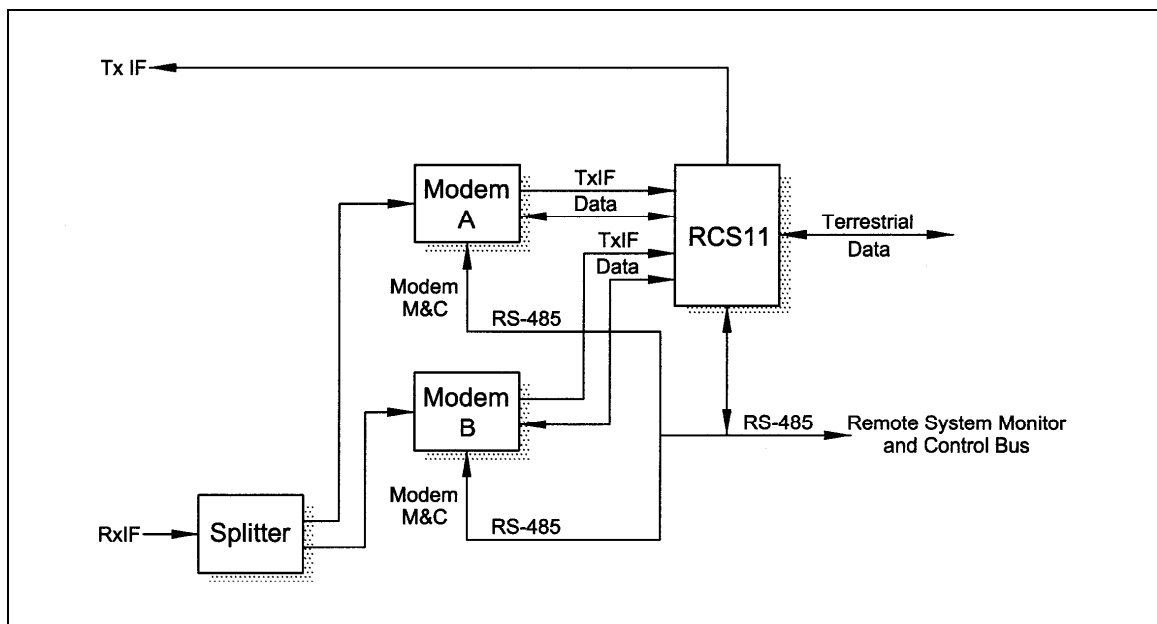

Figure 2-1. Functional Block Diagram
A block diagram of the signal flow is shown in Figure 2-1 below.
2.2.2 Configuring the RCS11 (Refer to Figure 2-1)